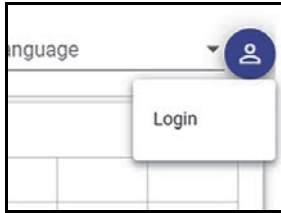

Figure 5-2 Manager access icon
1. Click the icon in the upper-right corner of the screen (see Figure 5-2 on page 68).